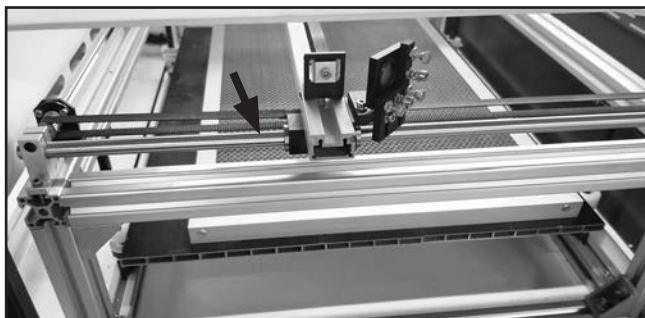

Figure 71. Left Y-Axis crossbeam linear shaft.
8. Repeat **Steps 3–7** on left and right Y-Axis crossbeam linear shafts (see **Figure 71**).